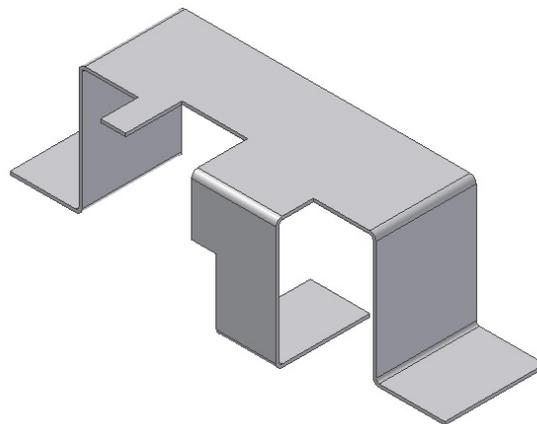

Figure 15-101 Model after creating the cut feature
2. Invoke the **Cut** tool and then create the cut feature by selecting the **All** option from the drop-down list in the **Extents** area of the **Cut** dialog box. The sheet metal component after creating the cut is shown in Figure 15-101.